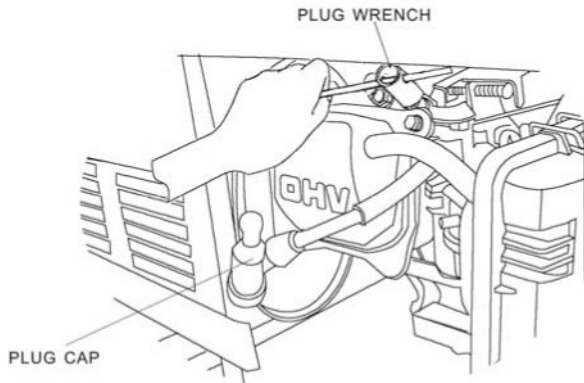

Figure 16 - Removing the Spark Plug
2. Unscrew the spark plug from this generator by using the included spark plug wrench as illustrated in Figure 16.
- Disconnect the spark plug. (See Figure 16, Removing the spark plug.)
| 1 year or more | Empty the fuel tank. (See “Emptying the Fuel Tank” in the “Maintenance/Care” section.) Disconnect the spark plug. (See Figure 16, Removing the spark plug.) |